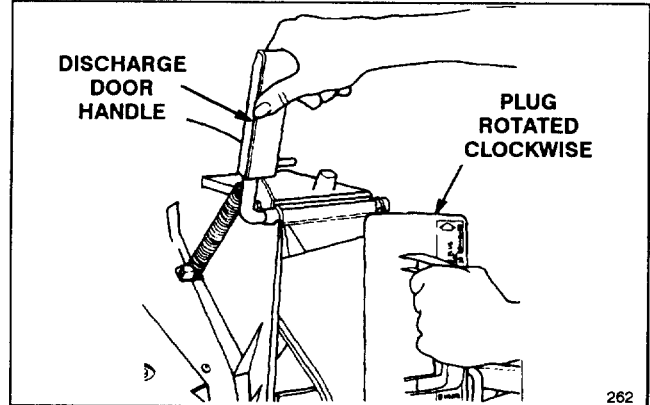

Figure 8
1. Make sure engine is shut off. Open the discharge door by pulling forward on the handle and moving it rearwards (Fig. 8). Hold the discharge door handle to prevent the spring-loaded door from closing while inserting the plug.
2. Since the plug is slightly wider than the discharge tunnel opening, you must rotate the plug clockwise slightly while inserting it (Fig. 8). Make sure the arrow on the plug decal is pointing upwards.